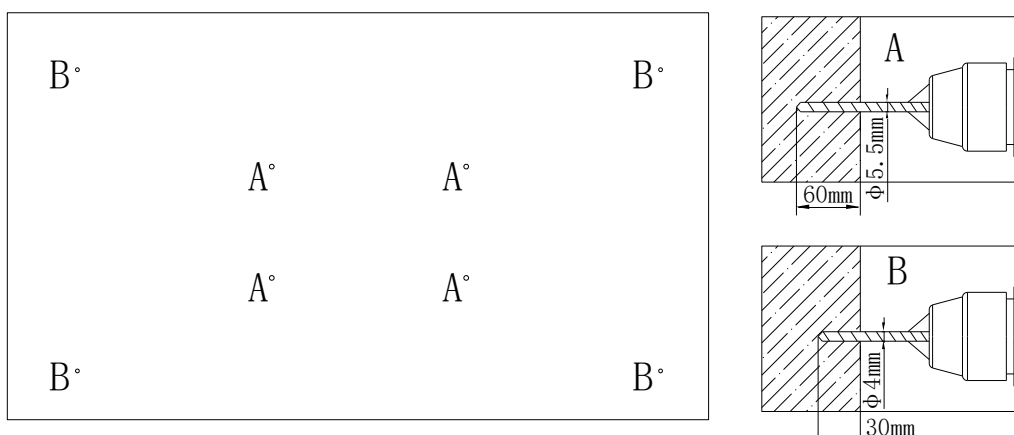

Figure 11 – Storm Shell Back Mounting Locations
- Place a mark through the Storm Shell Back onto the wall in the remaining six (6) mounting locations (Figure 11). Remove the Storm Shell Back from the wall and ensure that the six (6) remaining mounting location marks are located over a stud. For position B, use the same drill procedure as Step 2 (1/8" drill bit 1.5 inches deep – 30 mm). For position A, drill a hole using a 1/4" drill bit, 3 inches deep (60 mm).